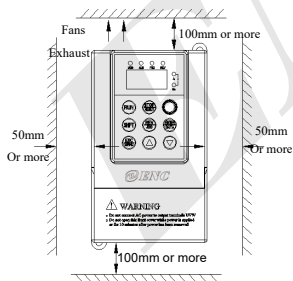

Fig. 3-1 Mounting space
(1) Normally the inverter should be mounted vertically, horizontal mounting will seriously affect heat dissipation and the inverter must be used in lower volume.
(2) Demand for minimum mounting space and distance, please see Fig.3-1.